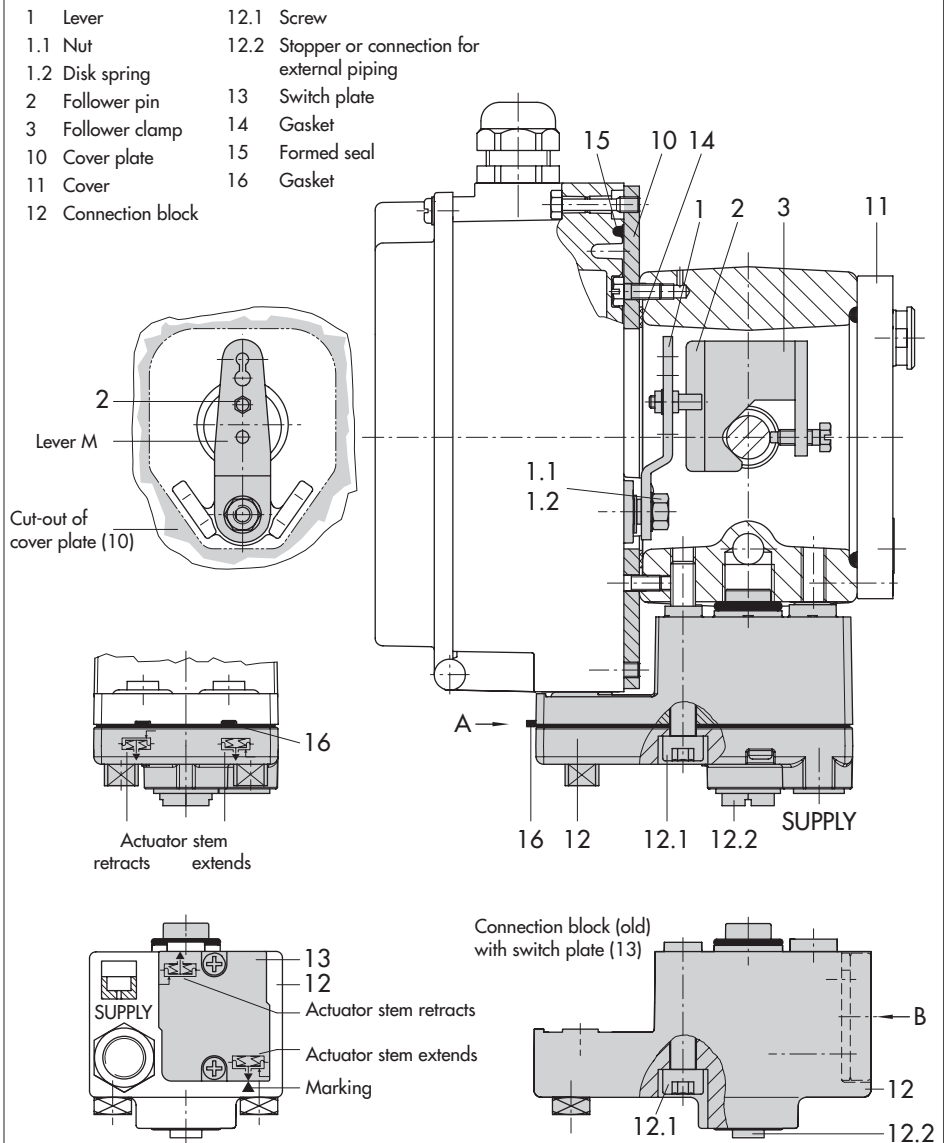

Fig. 4 · Direct attachment – Signal pressure connection for Type 3277 Actuator with 240, 350 and 700 cm²
1. Place follower clamp (3) on the actuator stem, align and screw tight so that the mounting screw is located in the groove of the actuator stem.
2. Mount cover plate (10) with narrow side of the cut-out opening (Fig. 4, on the left) pointing towards the signal pressure connection. Make sure that the bonded gasket (14) points towards the actuator yoke.
3. For actuators with 700 cm², remove the follower pin (2) at lever **M** (1) on the back of the positioner from pin position **35**, reposition it in the bore for pin position **50** and screw tight.
4. Insert formed seal (15) in the groove of the positioner casing.
5. Place positioner on the cover plate in such a manner that the follower pin (2) rests on the top of the follower clamp (3). Adjust the lever (1) correspondingly and open the positioner cover to hold the positioner shaft in position at the cap or the switch. The lever (1) must rest on the follower clamp with spring force. Mount the positioner on the cover plate (10) using the two fixing screws.
6. Make sure that the tip of the gasket (16) projecting from the side of the connection block (12) is positioned above the actuator symbol that corresponds with the actuator with fail-safe action "Actuator stem extends" or "Actuator stem retracts." If necessary, remove the three fixing screws and the cover. Then reposition the gasket (16) turned by 180°. The previous version of the connection block (Fig. 4, bottom) requires the switch plate (13) to be turned such that the corresponding actuator symbol points to the marking.
7. Place the connection block (12) with the associated seal rings against the positioner and the actuator yoke. Screw it tight using the fixing screw (12.1). For actuators with fail-safe action "Actuator stem retracts", additionally remove the stopper (12.2) and fit on the external signal pressure piping.
8. Mount cover (11) on the other side. Make sure that the vent plug points downwards when the control valve is installed to allow any condensed water that collects to drain off.